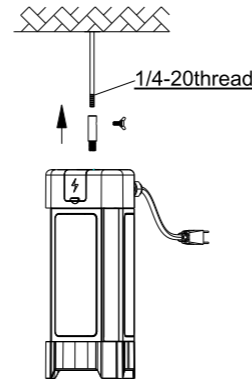
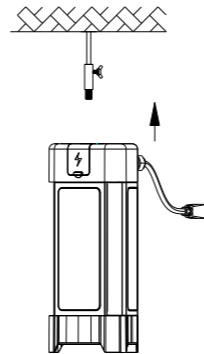

Figure 12
Figure13
1. Only suitable for threaded round pole with the diameter 1/4inch. Put the 1/4 NPT Stem into the round pole (Figure 12), then tighten the 1/4 NPT Stem by screwing the butterfly screw (Figure 13);
2. Connect the fixture to the 1/4 NPT Stem; (Figure 13, 14) Finally connect the plug to the socket.